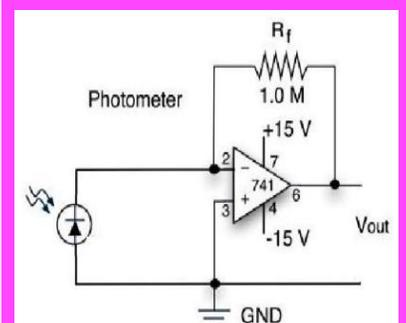

Figure 1 Voltage amplifier circuit
Step 1: Build the amplifier circuit shown in Figure 1. This circuit will create a usable output voltage based on the small current provided by the photodiode. The output voltage will be limited by the voltage rails of your myDAQ and any change in the output load will not negatively impact the photodiode current.